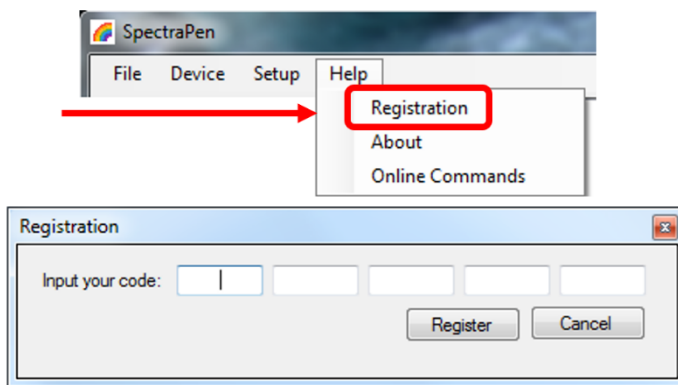

Fig. 16 Software registration.
2. To connect and recognize the SpectraPen device in the SpectraPen software, proceeds first with the registration of the SpectraPen software (Fig. 16).